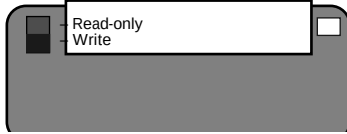

Figure 69: Write tab position
1. Insert the disk into the disk drive on the right side of the control module. The write-protect tab must be closed. See *Figure 69*.